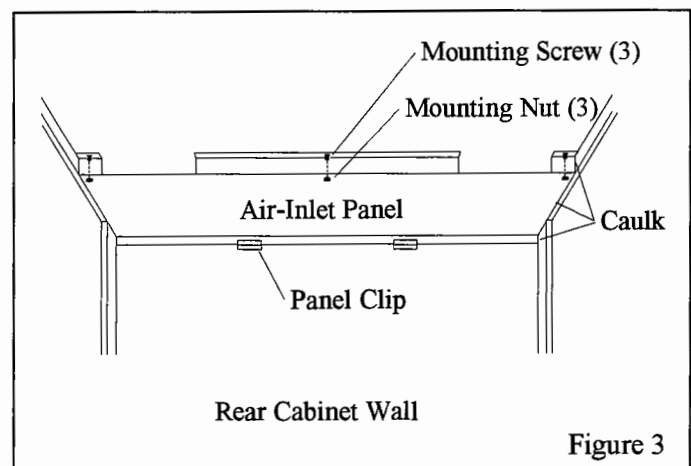

Figure 3
3.3 From inside of the cabinet, remove the three air inlet panel mounting nuts, as shown in Figure 3.